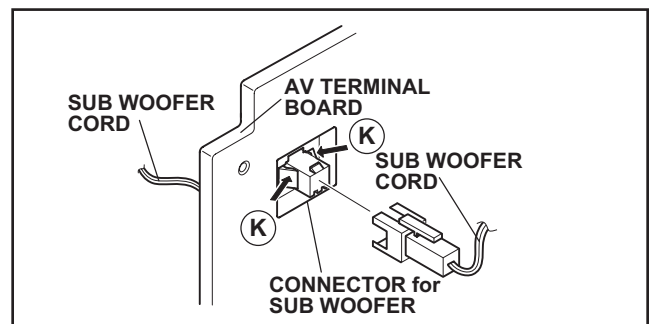

Fig.3
- (4) At first, expand the lever [K] with the SUB WOOFER connector, and pull it out of connector jack as shown in Fig.3.